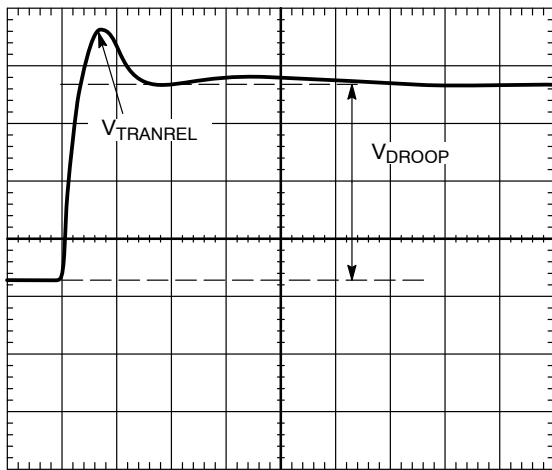

Figure 18. Transient Setting Waveform
20. For load release (see Figure 18), if $V_{TRANREL}$ is larger than the allowed overshoot, there is not enough output capacitance is needed, or the inductor values need to be made smaller. When changing inductors, start the design again using a spreadsheet and this tuning procedure.